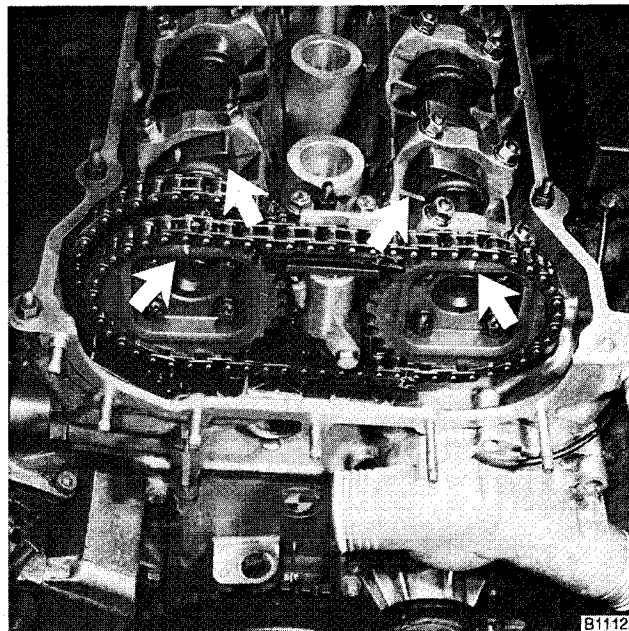

Fig. 20. Engine set to approximate TDC. Camshaft lobes face in and arrows on sprockets point up (**arrows**).
13. Set engine to approximate TDC by rotating in normal operating direction until camshaft lobes at cylinder no. 1 are facing each other. See Fig. 20.